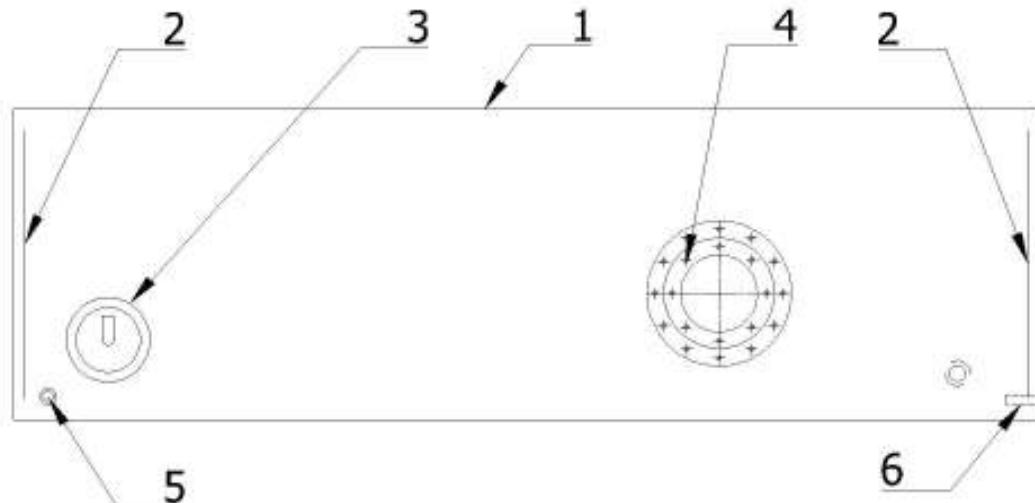

Fig. 4-4: Fuel tank (left)
Fuel tanks (Fig. 4-4) are of welded all-metal structure consisting of aluminum sheet metal skin (1) and two ribs (2). There are on each tank filler neck (3), fuel level sender (4), ventilating tube (5) and finger screen (6).